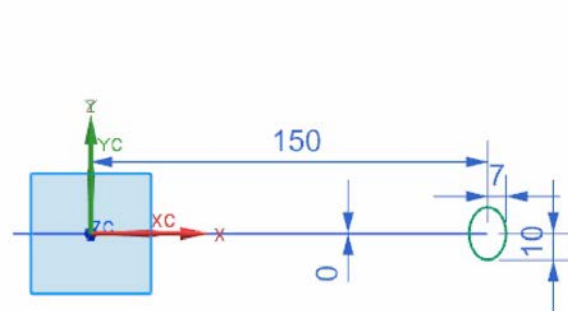

Figure 10-112 The sketch for the section string
2. Draw another ellipse on the XC-ZC plane, as shown in Figure 10-112, and exit the sketching environment.